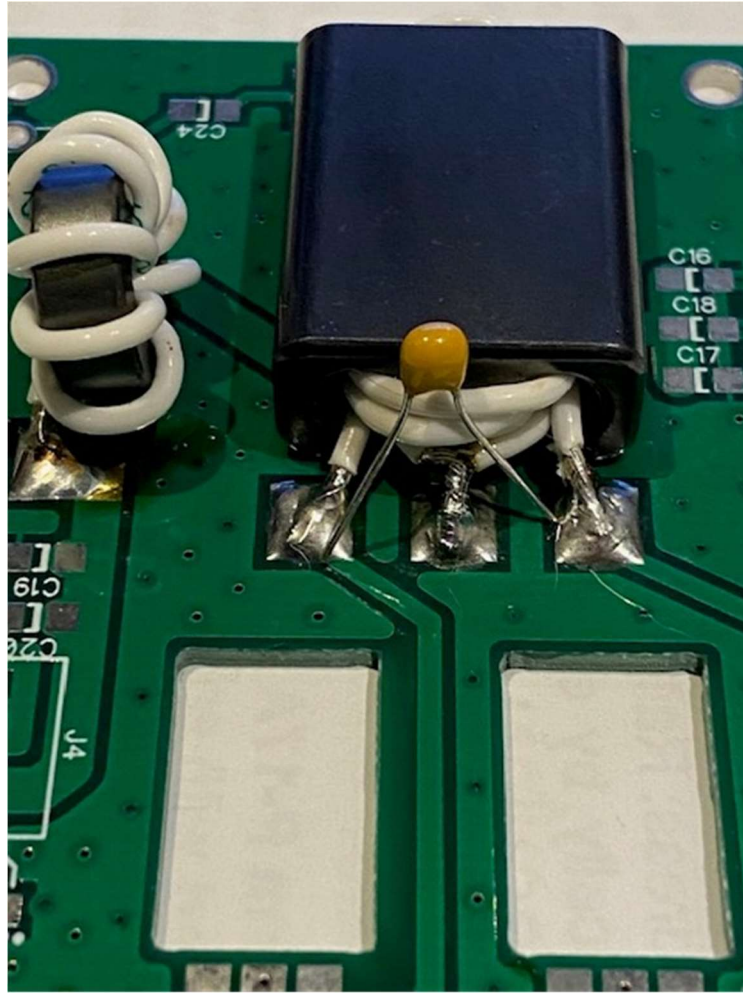

Figure 25. C24 At The Primary Of T3.
24. There is some variation in the mixes of the transformer cores, and that can cause slight variations in the frequency response of the PA. What you may see is less gain at 54Mhz than at 1.8Mhz. C24 (Figure 25) is specifically used to correct this situation and flatten